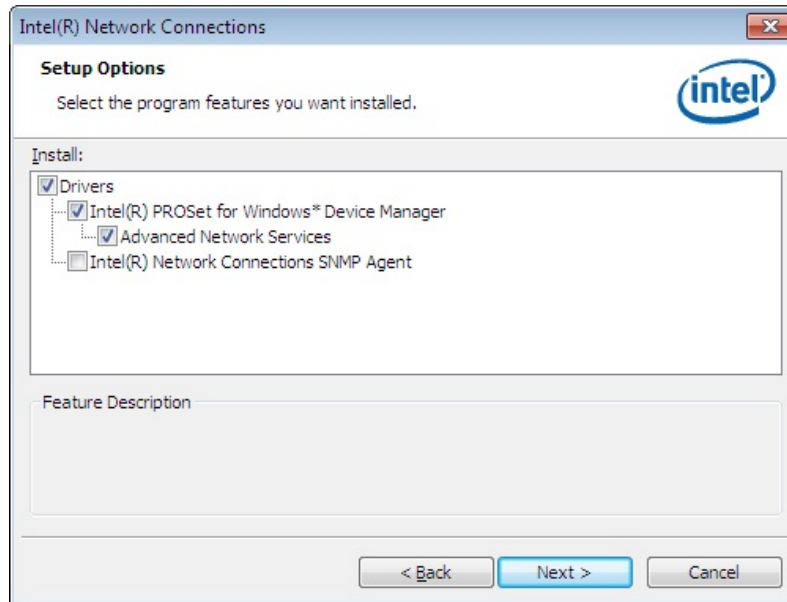

Figure 6-19: LAN Driver Setup Options
Step 8: The **Setup Options** screen in **Figure 6-19** appears.